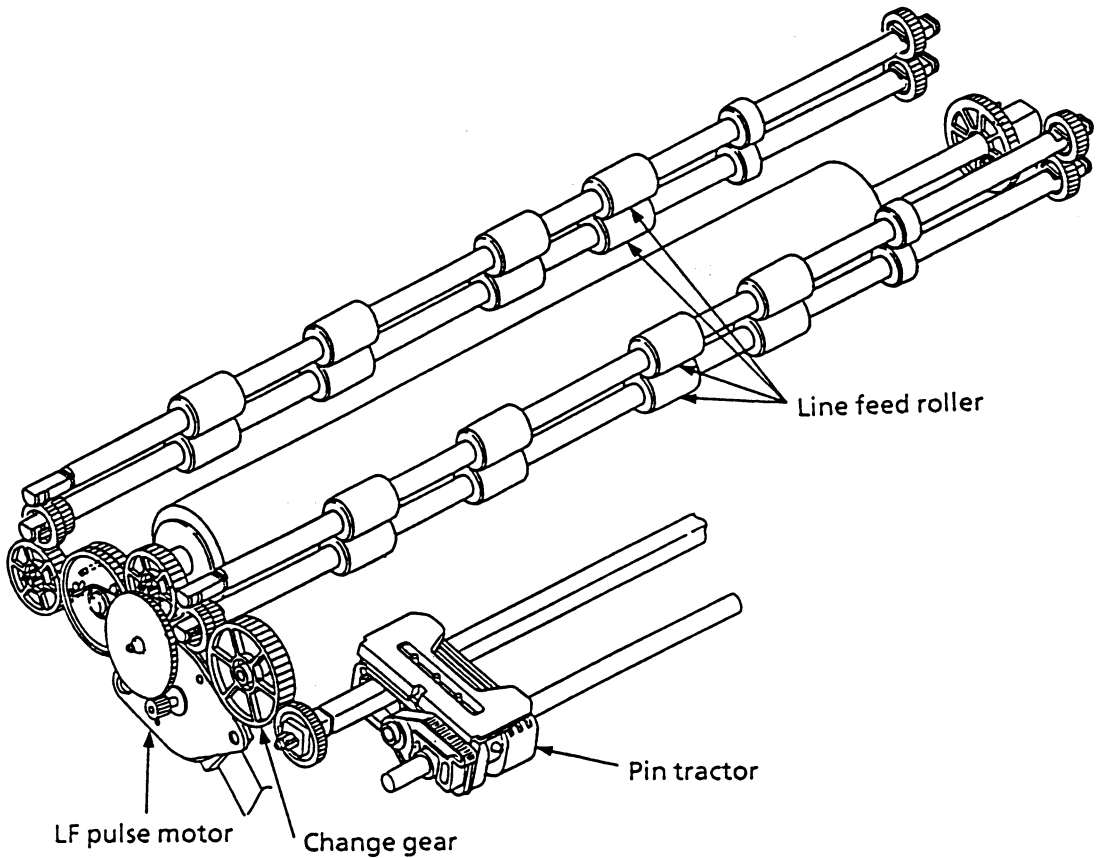

Figure 3-8
(2) Continuous paper feed operation (See Figure 3-8.)